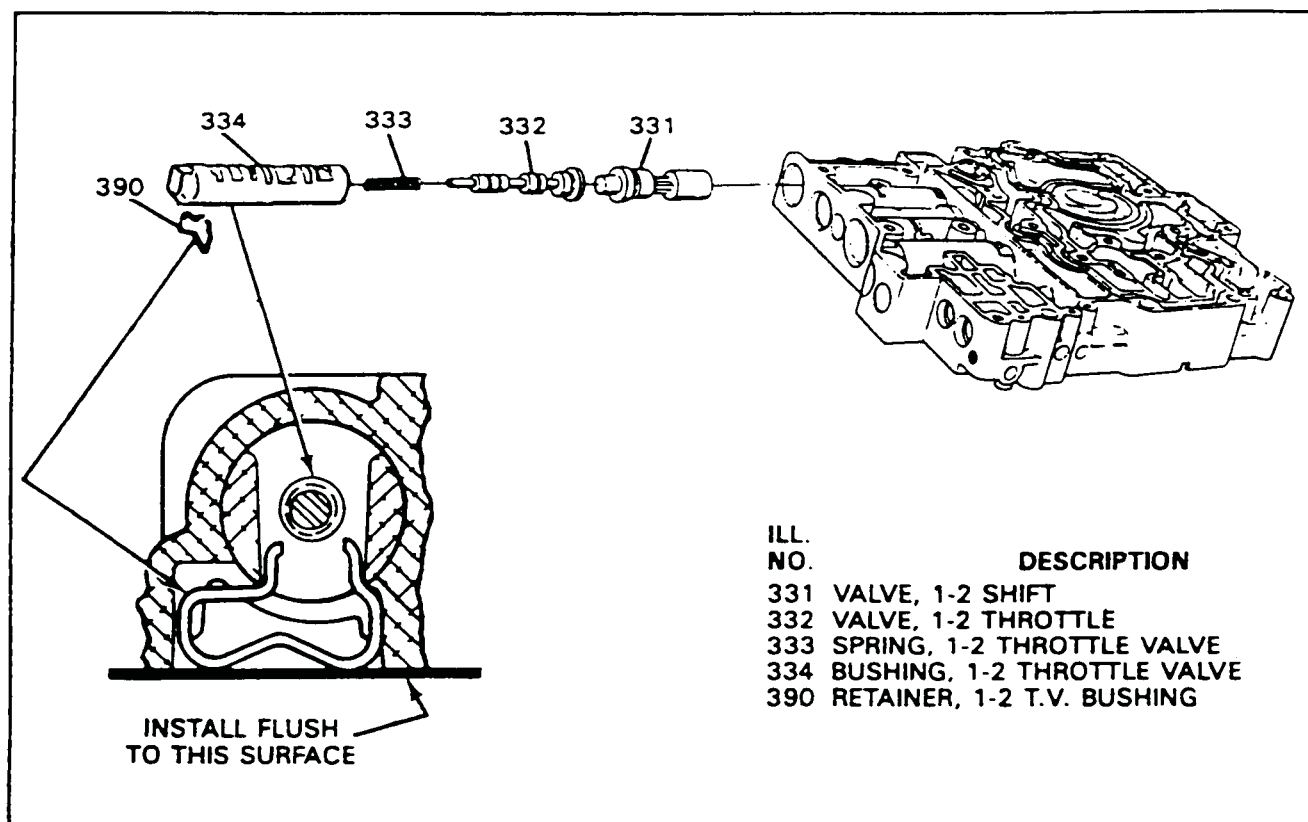

Figure 69
CAUSE: The cause may be the 1-2 throttle valve bushing retainer (390) pushed in too far (See Figure 69). If the retainer is pushed in too far the "Legs" of the retainer will grab hold of the 1-2 throttle valve, and the result will be 2nd gear starts.
CORRECTION: Install the retainer so that it is flush with the machined surface of the valve body (See Figure 69).
NOTE: The bushing must be installed as shown in Figure 69, with the angled surface on the end of the bushing toward the channel plate.